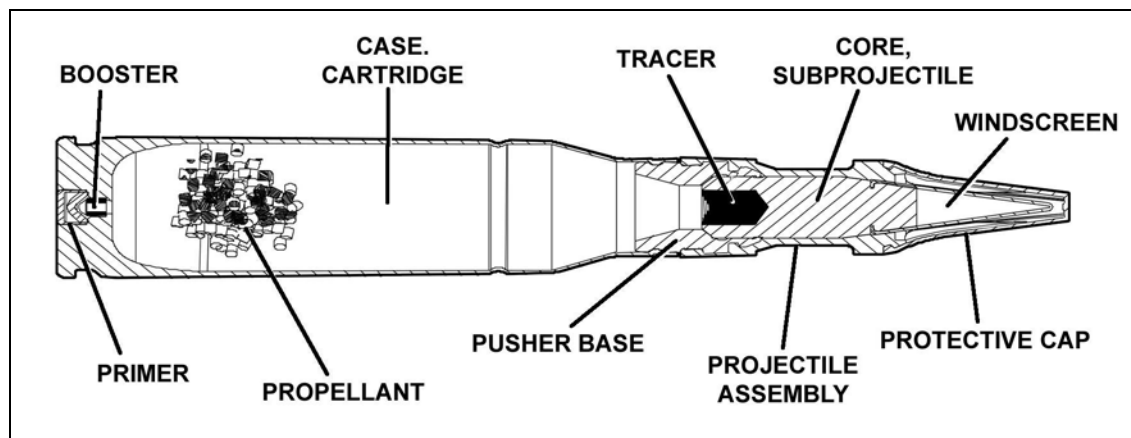

Figure 2-13. M910 TPDS-T.
d. **M910 Target Practice Discarding Sabot with Tracer.** The target-practice, discarding sabot with tracer (TPDS-T) replicates the flight pattern of the M791 APDS-T round. The TPDS-T (Figure 2-13, page 2-18) allows units to practice sabot engagements on limited-distance ranges. The maximum range of the TPDS-T is 6,404 meters.
(1) The TPDS-T cartridge is a fixed type, percussion-primed round. It consists of a sabot-projectile assembly crimped to a steel cartridge case. The projectile assembly includes a disposable aluminum pusher base. It also includes a subprojectile encapsulated with a discarding nylon sabot and polyethylene protective cap. The subprojectile has a steel core with either an aluminum or a steel windscreen and with pressed-in tracer pellets. The projectile is blue with white markings.
(2) The TPDS-T cartridge trajectory ballistically matches the APDS-T plus or minus 1 mil to a range of 2,000 meters.
(3) The tracer burns out at 2,000 meters.